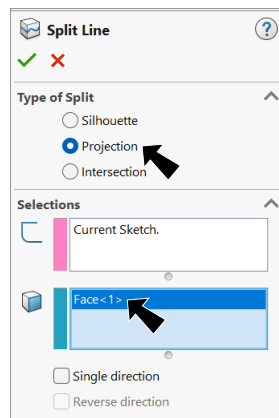

**Fig. 48**
Step 5. Dimension **diameter 3.1**, **Fig. 48**.